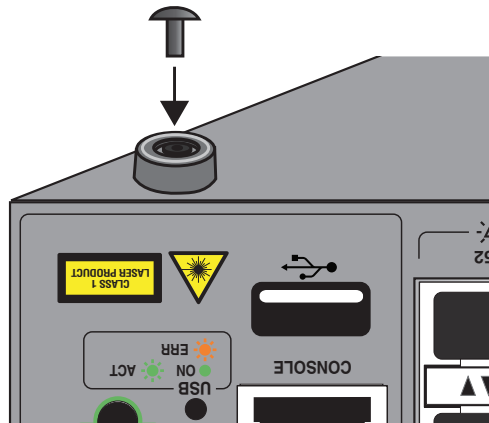

Figure 23. Inserting the Rivet into the Bumper Foot
4. Insert the rivet to secure the bumper foot to the base. Refer to Figure 23.